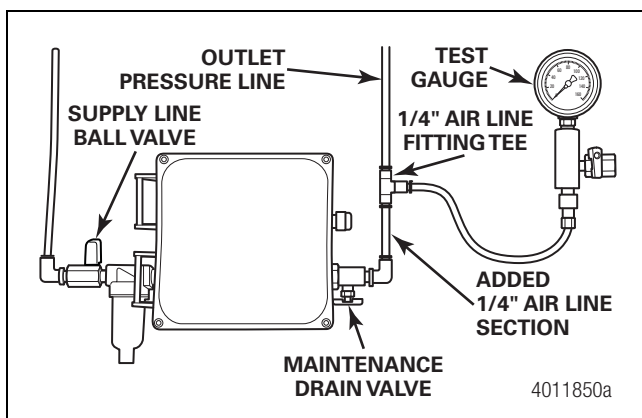

Figure 3.21
3. Install a 1/4" air line fitting tee and a small section of 1/4" air line to the control box outlet port. Figure 3.21.
4. Install test gauge and outlet pressure line to open ports on the 1/4" air line fitting tee. Figure 3.21.